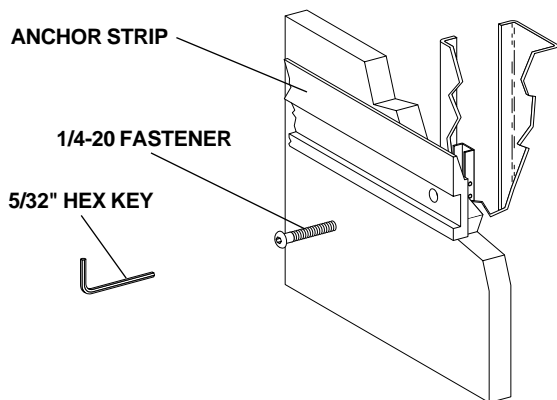

FIGURE 9
18. Place the anchor strip against the wall in the proper location. Install a 1/4-20 fastener (see Figure 9 on page 4), through the anchor strip, into the toggle bolt anchor. **Do not tighten the fastener.**
28. Tighten the fasteners (see Figure 9).